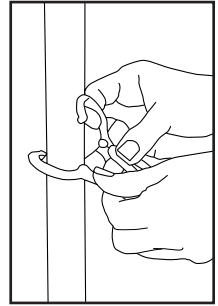

Fig. 3
2. Attach the cord retainer around the vacuum handle (Fig. 3).